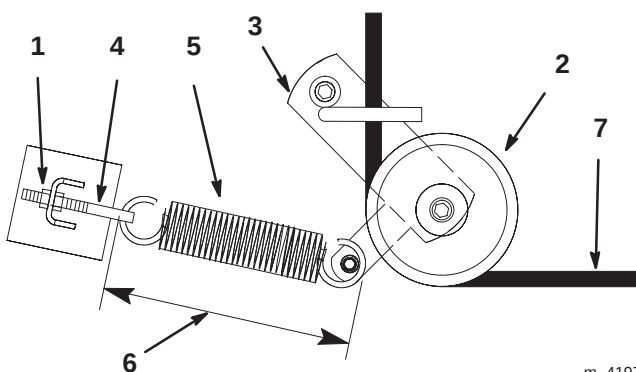

Figure 43
- Loosen the outer nut on the spring eye bolt (Fig. 43) enough to allow removal of the belt.
6. Route the new belt through the idler arm (Fig. 43) and onto the other pulleys (Fig. 44).
7. Tighten the outer nut on the spring eye bolt (Fig. 43).
Note: Check the spring length. The spring should measure 9-3/8 in. $\pm$ 1/8 in. (238 mm $\pm$ 3 mm) when installed with the height-of-cut set at 1-1/2 in. (38 mm). Adjust it if it does not (Fig. 43).